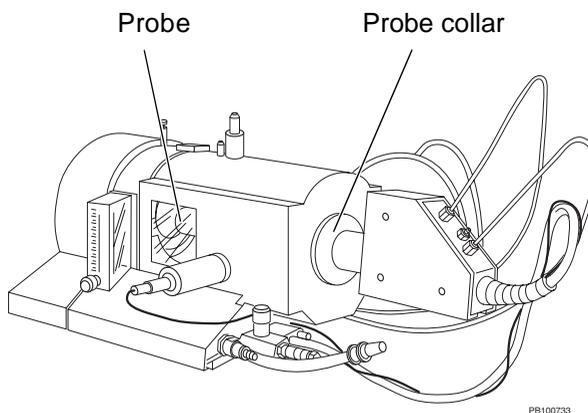

Figure 2-10 Positioning the APCI Probe
3. Loosen the probe collar on the right side of the spray chamber (Figure 2-10).